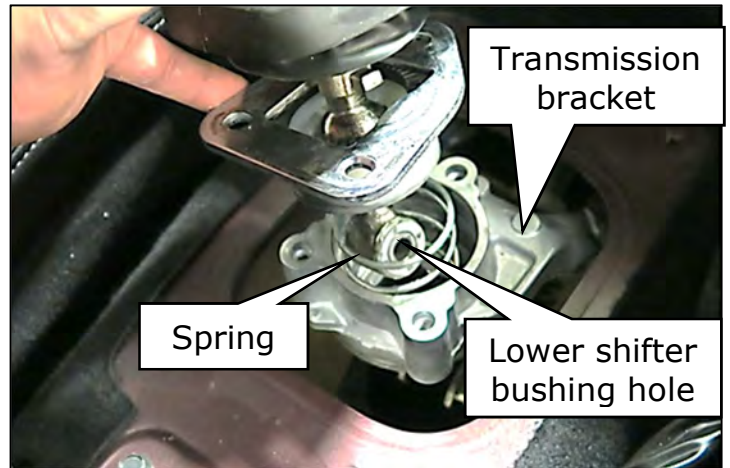

Figure 99
- Align the shifter as shown in Figure 99 with the lower bushing hole facing the vehicle doors